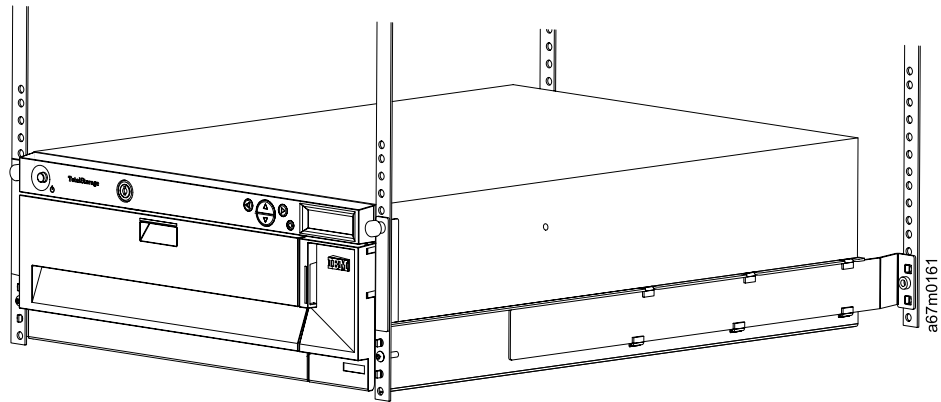

Figure 16. Library in the rack
13. Attach the securing brackets on the front of the library to both sides of the rack by tightening the thumbscrews on the securing brackets. Figure 16 on page 27 shows library installed in a rack.